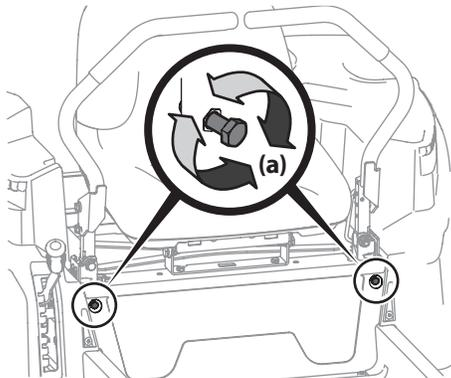

Figure 4-7
2. Locate the drive control lever stop adjustment bolts (a) on the front of the seat frame. See Figure 4-7.